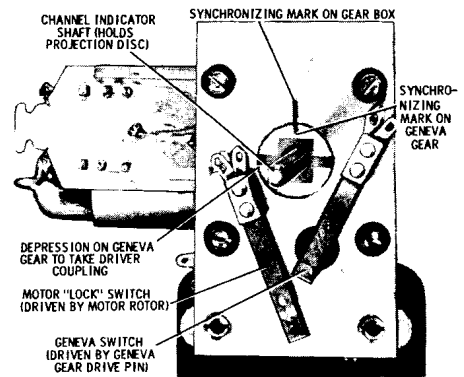

FIGURE 8. SYNCHRONIZING MOTOR GEAR BOX WITH TUNER
2. The nylon gear, through which the tuner shaft will project and which is visible on the side of the gear box away from the tuner, must be positioned so that the timing notch lines up with the timing notch on the gear box (see Figure 8).
3. The drive-coupling (metal) must be positioned into the depressions in the nylon gear (of step #2) so that the timing notch lines up with the timing notch on the gear box (see Figure 8).